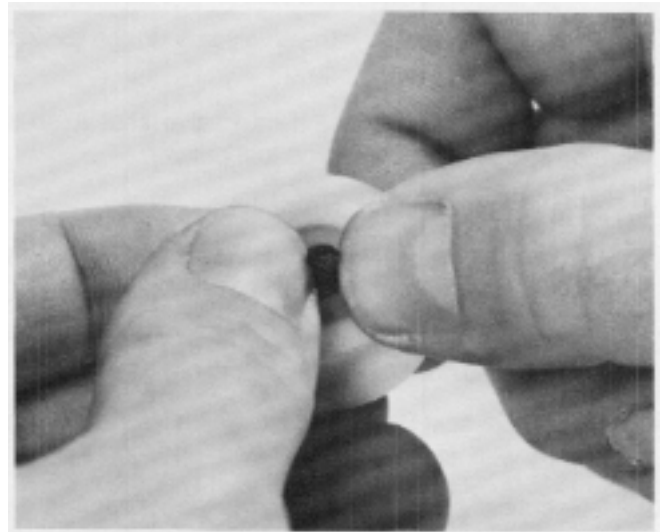

Figure 50
3. The stem of the umbrella valve allows air into the tank to compensate for the fuel being used by the engine. Ensure that it will open and close by holding the flat end lengthwise between your thumbs and squeezing. See Figure 50.